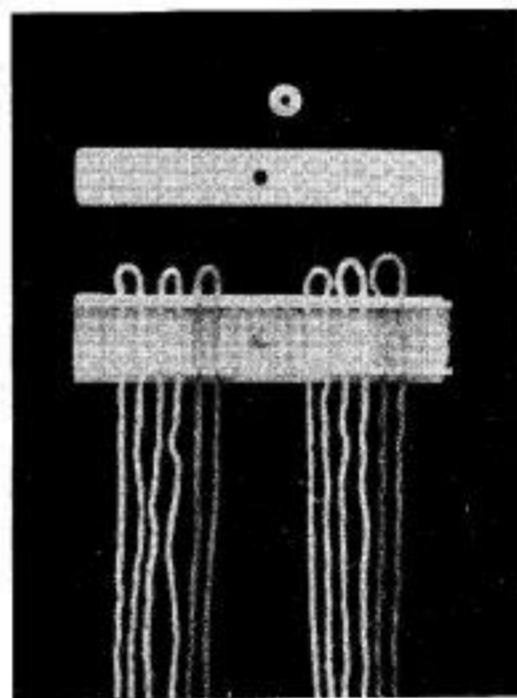

Fig. 66
- (a) Loosen the securing nut and remove the cover of the Vertical Pattern Knitter. (Fig. 66) Put the required number and lengths of contrasting colour yarn into each slot of the Vertical Knitter as shown in Fig. 66. Replace the cover and secure it by tightening the nut.
Lay the strands into the grooves of a Vertical Pattern Knitter, see Fig. 66.